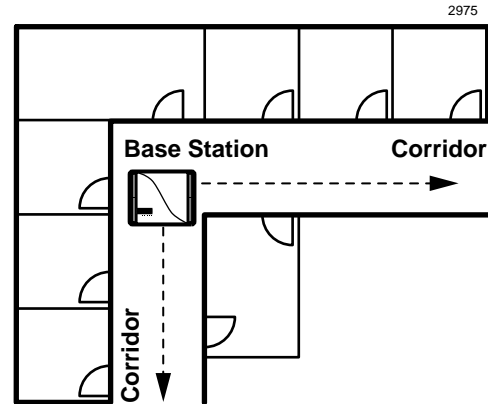

Figure 16-4 Maximum Line of Sight
③ To reduce or eliminate attenuation and fading
1. Begin the signal path without obstructions even though signals can travel through obstacles (see Figure 16-4).